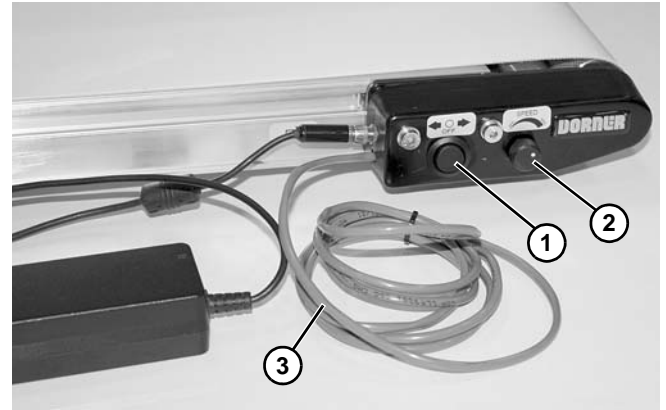

Figure 22
2. Select conveyor running direction with directional switch (**Figure 22, item 1**).
3. Select conveyor speed with speed control knob (**Figure 22, item 2**).
4. Remote start/stop cable (**Figure 22, item 3**) comes with wire nut over remote leads to allow test running conveyor.
6. Select conveyor running direction with directional switch (**Figure 22, item 1**). If Dark-On operation is selected, temporarily block photo eye to energize conveyor.
7. Select conveyor speed with speed control knob (**Figure 22, item 2**).